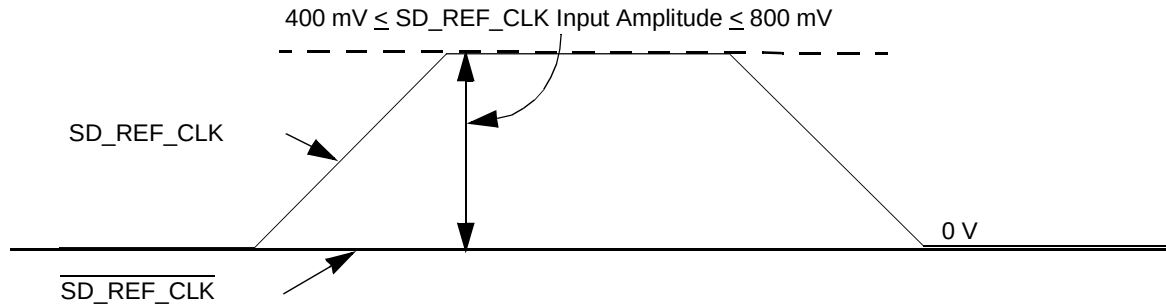

Figure 49. Single-Ended Reference Clock Input DC Requirements
- The SD_REF_CLK input average voltage must be between 200 and 400 mV. Figure 49 shows the SerDes reference clock input requirement for single-ended signaling mode.